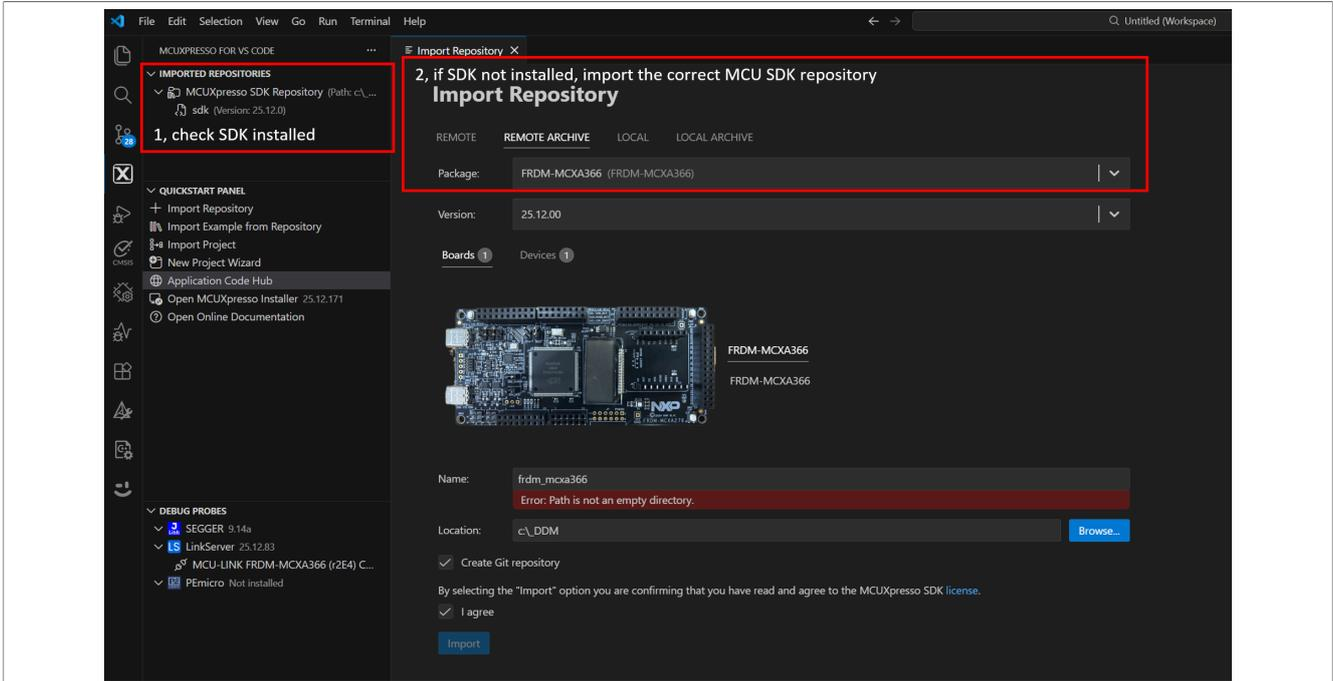

Figure 8. Import FRDM-MCXA366 SDK repository
1. Import the FRDM-MCXA366 SDK repository, as shown in Figure 8.